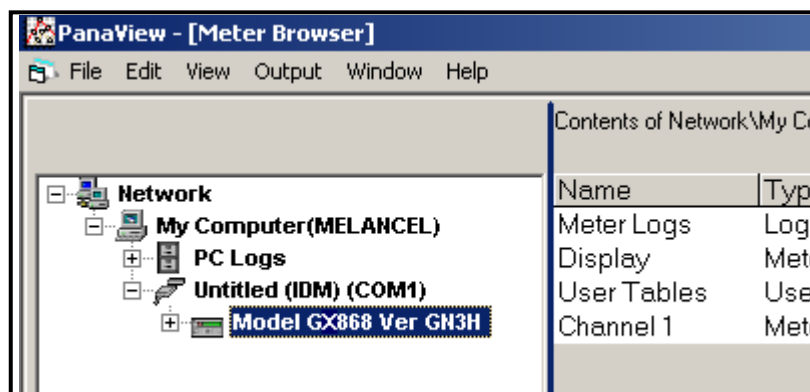

Figure 23: Updated Network Tree
If the initialization is successful, the Meter Browser shows a listing similar to *Figure 23* below.
1. Highlight the meter (as shown in *Figure 23 on page 96*).